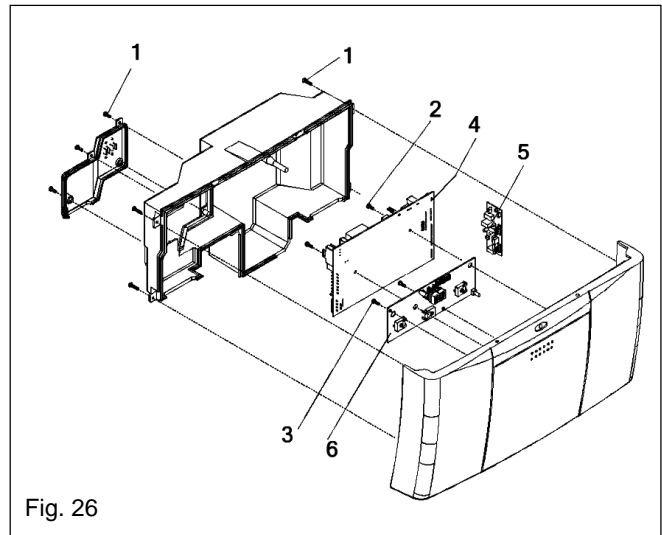

Fig. 26
6.12 PRINTED CIRCUIT BOARD (see fig. 26)